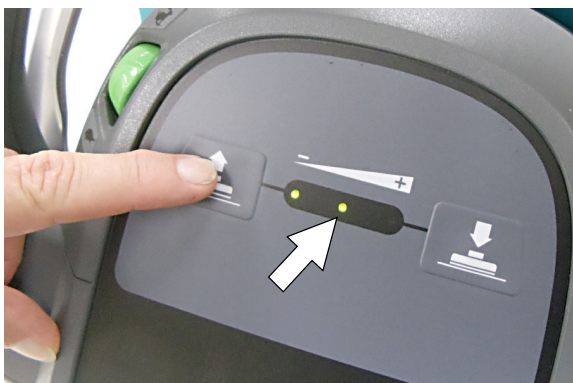

FIG. 20
7. For models equipped with automated down pressure, adjust the pad pressure to the desired setting by pressing the increase or decrease pad pressure buttons (Figure 20). For optimal performance set the pad pressure indicator to the center LED setting.